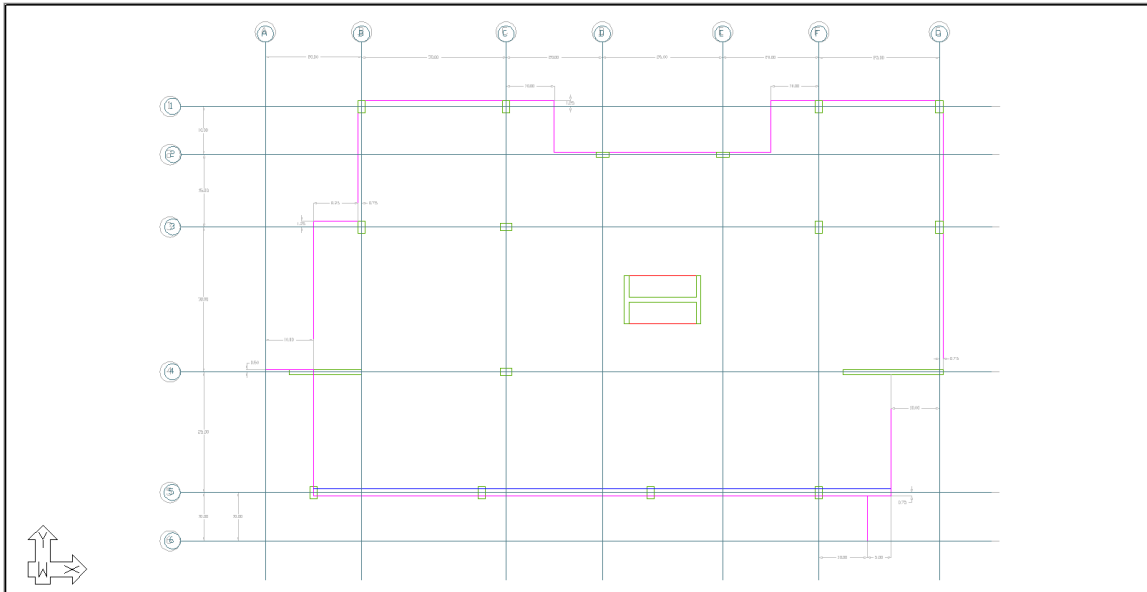

FIGURE 3-8
- Repeat this process until you have snapped all gridlines to line up with the imported CAD gridlines. When completed your model should look as shown in **FIGURE 3-8**.